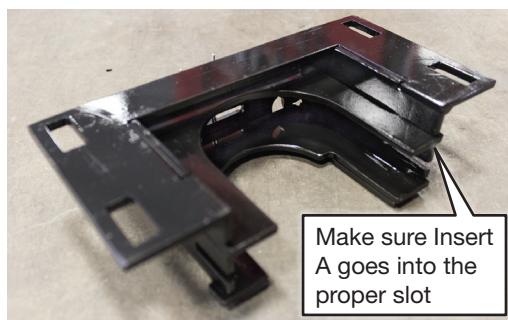

fig. E.9
2. Figure E.9 shows a bottom view of the upper frame bracket assembled for a 4WD installation.